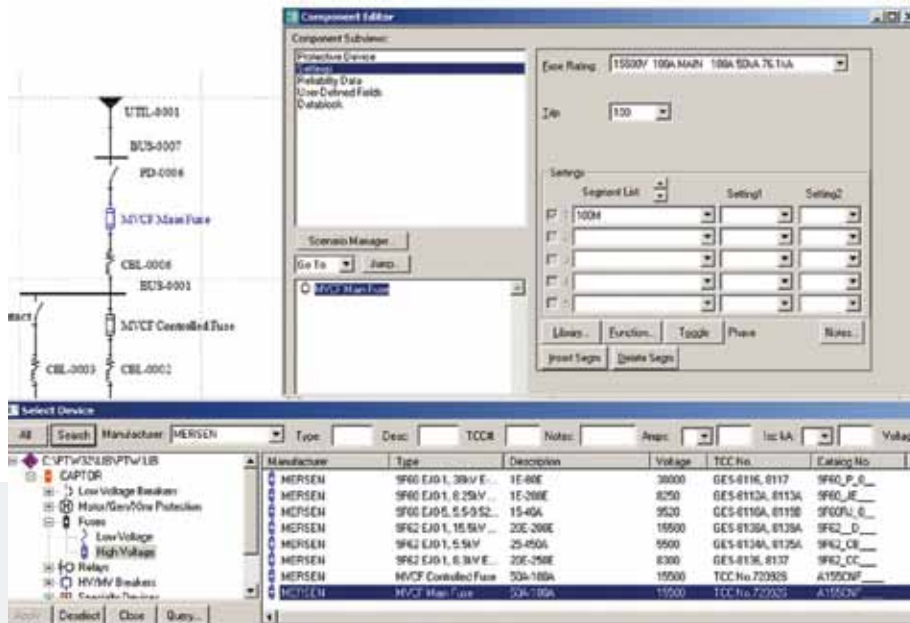

Figure 4. Selection of the main fuse of the MVCF.
Step 2. Select the main fuse (1) by clicking on the fuse to open the Component Editor. Select the MVCF main fuse from the library. Select the 100M from the dialog box (settings) as shown in figure 4.